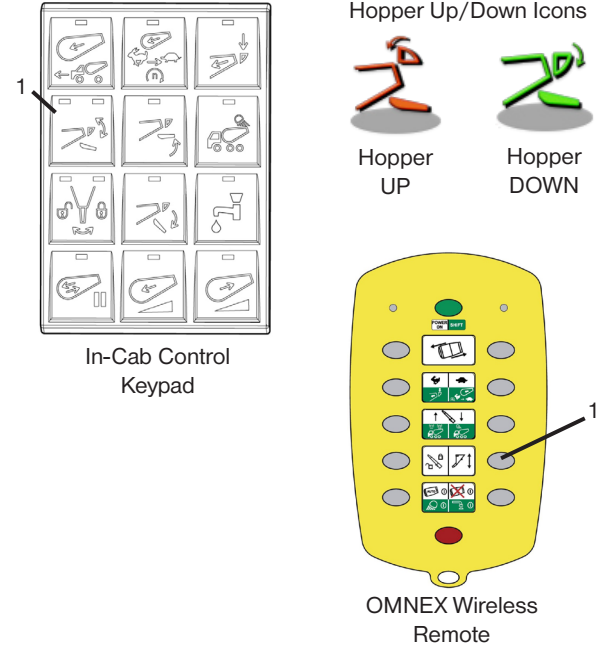

Figure 18
1. Press the HOPPER button on the in-cab control keypad or the OMNEX wireless remote (Figure 18). The button indicator will illuminate red for Hopper UP and green for Hopper DOWN. Additionally, the home/drum control screen will show either the Hopper UP icon or the Hopper DOWN icon.